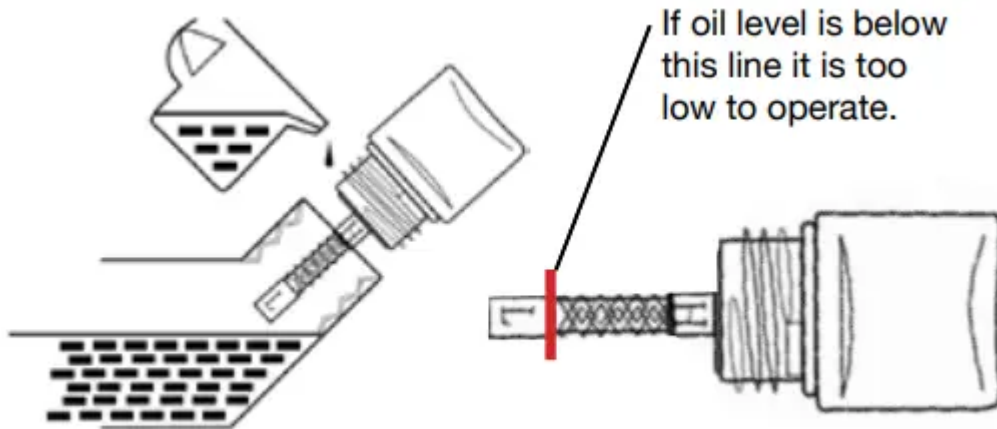

Figure 19 - Checking Oil Level
- Acceptable Oil Level – Oil is visible on the crosshatches between the H and L lines on the oil fill plug/dipstick (see Figure 19).
8. Continue to add oil until the oil is at the correct level. See Figure 19.